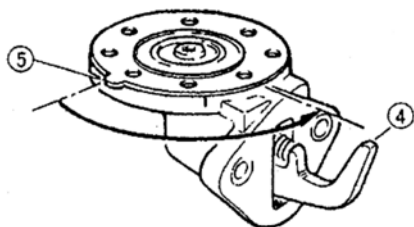

Fig. 2.1-6
1) Put the pump diaphragm on the pump rod as indicated in Fig. 2.1-6, and then insert the pump stay into the pump rod. Swivel it 90° at the same time of pushing the pump rod, and the pump diaphragm is attached to the pump rod ④ in this way.